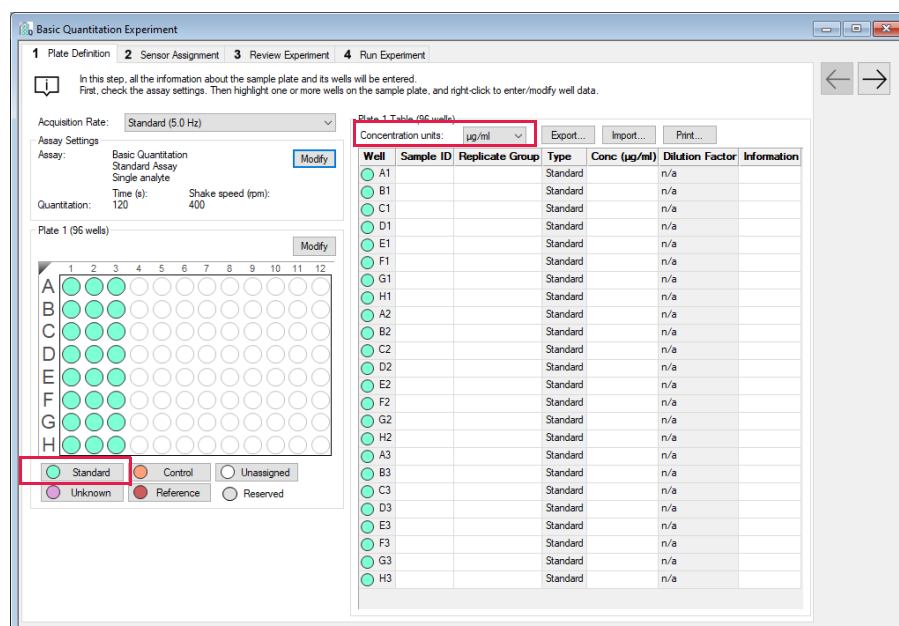

Figure 6-4: Plate Definition Window—Designating Standards
2. Click the **Standard** button below the **Sample Plate Map** (see Figure 6-4), or right-click and select **Standard**.